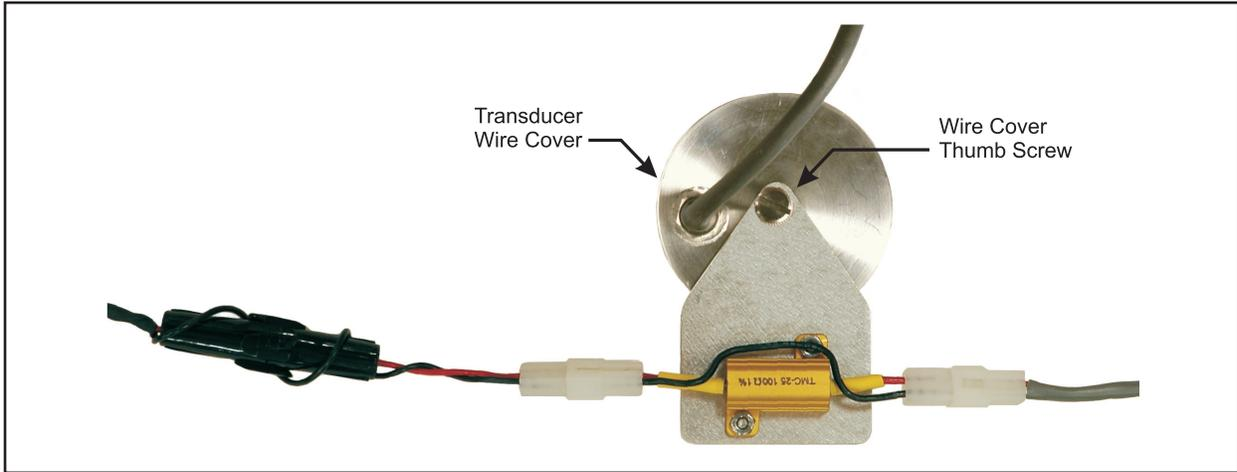

Figure 6: Power Direct Connect Module Mounted on TD Wire Cover
- 11) Mount the Power Direct Connect Module to the wire cover of the panel's high resolution transducer as shown in Figure 6. You will need to remove the wire cover using the thumb screw provided, back-thread the screw completely out of the cover, place the bracket in position, and reinstall the wire cover. Make sure the O-ring is in place properly and that none of the wires get crimped when you position the cover. Check that everything is properly sealed and tightened.